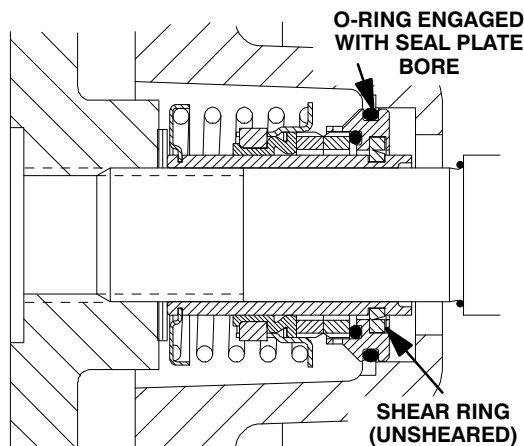

Figure 9. Seal Partially Installed
set of impeller shims (2) provided with the seal, and screw the impeller onto the shaft until it is seated against the seal (see Figure 9).